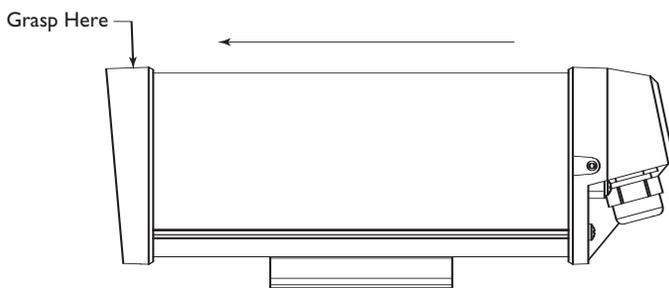

Figure 2: Removing the Cover
2. Grasp the housing's front cap and pull forward. Do not squeeze the cover itself. This will make it difficult to slide off the cover. See **Figure 2**.